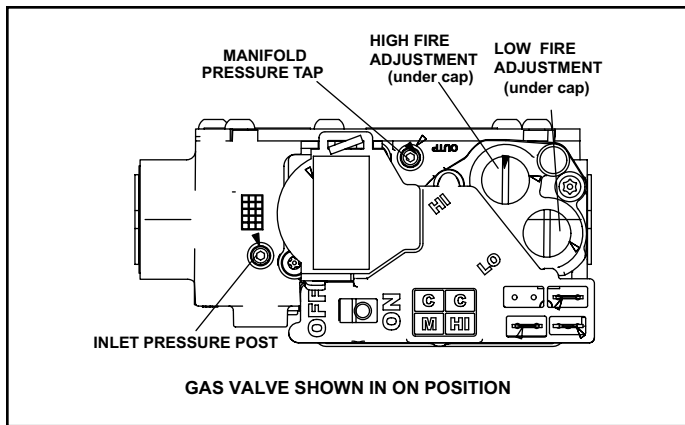

Figure 34. White Rodgers Gas Valve
See Figure 34
6. Move switch on gas valve to OFF. Do not force. See Figure 34.
8. Move switch on gas valve to ON. Do not force. See Figure 34.
An inlet post located on the gas valve provides access to the supply pressure. See Figure 34. Back out the 3/32" hex screw one turn, connect a piece of 5/16" tubing and connect to a manometer to measure supply pressure. See Table 13 for supply line pressure.
A manifold pressure tap located on the gas valve provides access to the manifold pressure. See Figure 34. Back out the 3/32" hex screw one turn, connect a piece of 5/16" tubing and connect to a manometer to measure manifold pressure.
1. Connect test gauge to manifold pressure tap (Figure 34) gas valve.
4. If necessary, make adjustments. Figure 34 shows location of high fire and low fire adjustment screw.